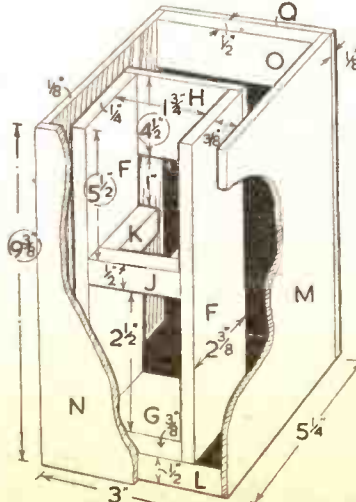

Fig. 6—Cut-away view showing construction
The other rails are (K) of $\frac{3}{8}$ in. section only. Note in Fig. 6 certain dimensions are put in a circle and shown out of scale purposely so that space can be saved. Mark out these lengths as indicated when encircled. The true proportion of the magazine is as in Fig. 3.